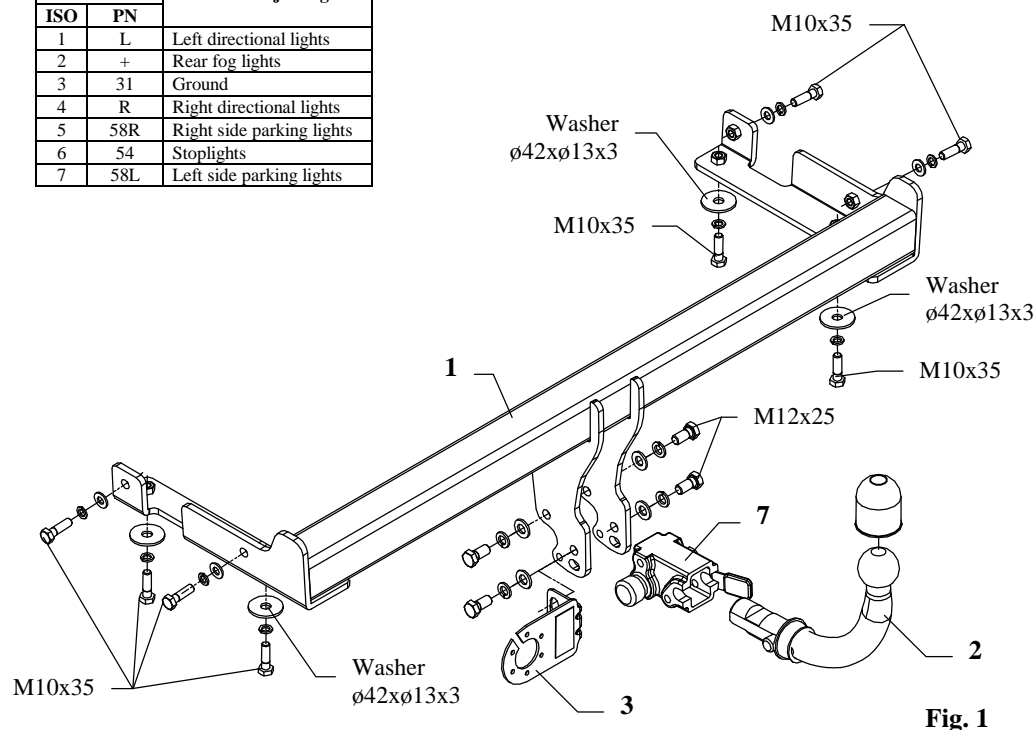

Fig. 1
4. If necessary, open the ends of the frame members by removing the end-plates from the rear panel. Slip main bar of the towbar (pos. 1) to the frame members in this way, so holes in the towbar tally with holes in the frame.
5. Fix the towbar to frame members using bolts M10x35mm (pos. 6) – see fig. 1.
7. Fix body of the automat (pos. 7) and the socket plate (pos. 3) using bolts M12x25mm (pos. 5) from accessories. Place tow-ball (pos. 2) according to supplied instruction.